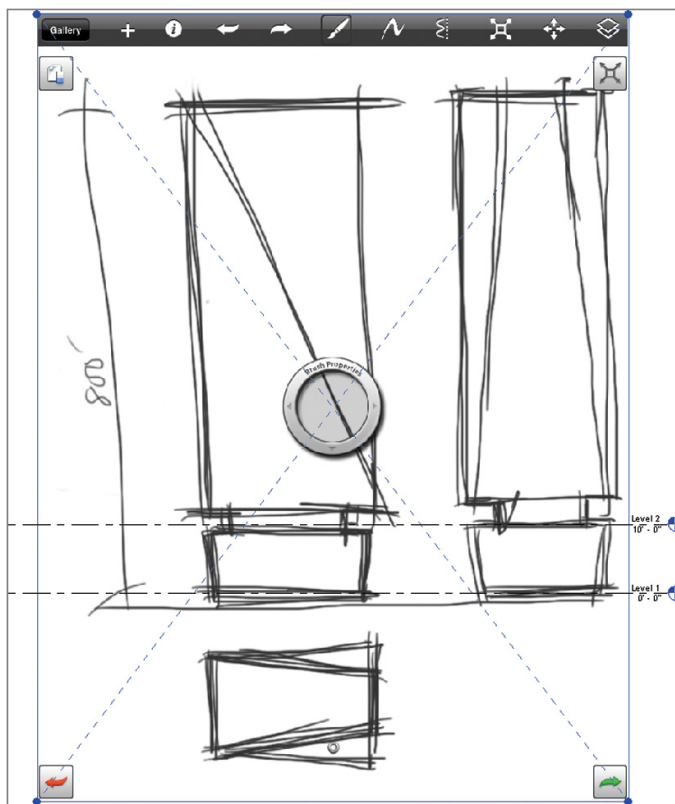

FIGURE 7.3 The placed image. Note the location of the levels relative to the base of the image
4. You see a large, empty-looking box with an *X* through it. This is the Image Placement tool. Place the image as shown in Figure 7.3 so that the base of the building sketch roughly aligns with Level 1.
As you can tell from Figure 7.3, the scale of the sketch doesn't relate to the real-world units of Revit Architecture. To remedy this, in the next section you'll quickly scale the imported image.